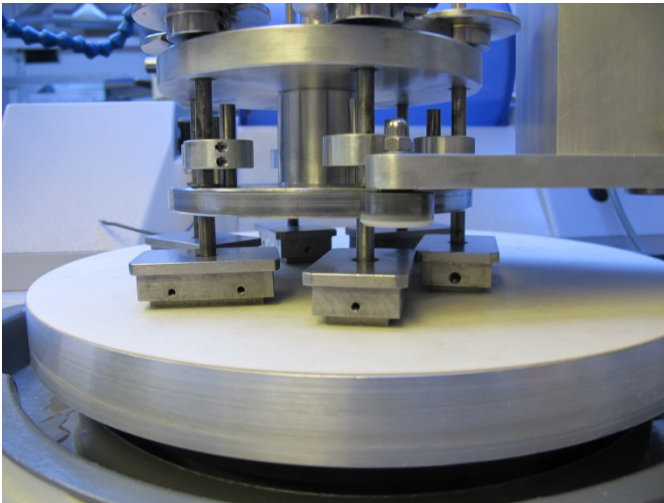

Figure 2
1. Place the sample holders under the carousel posts. The face of the sample holder should be on the polishing pad (Fig. 2).